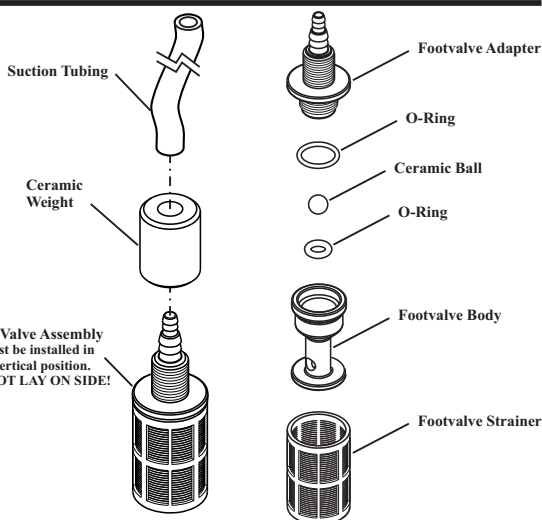

FIG. 4.7 FOOTVALVE ASSY.
- Periodically clean the suction strainer. Fig.4.7